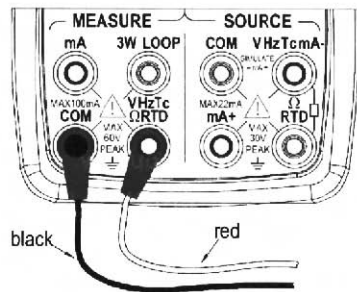

Figure 11 Measuring DC voltage, ohms, frequency, continuity and switch
For DC voltage, Ohm, frequency, continuity or switch measurement (Figure 11)
Step 3: Connect the lead cables for measurement to the measuring terminals of the measuring instrument under test as shown in Figure 11.
8.5 Measuring Temperature with Thermocouple (TC)
“” on the upper part. Connecting the devices as shown in Figure 11, the beeper sounds continuously if the loop circuit resistance under measurement is less than 50Ω, and LCD shows the present measured resistance value.